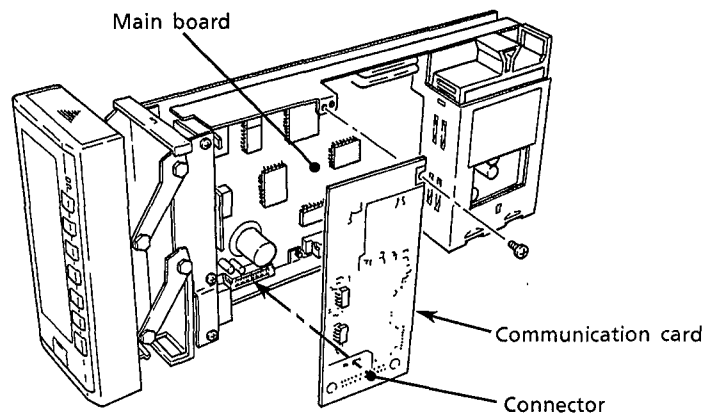

Figure 11.8 Replacing the Communication Card
- ① Swing up the front panel, and remove the internal unit.
- ② Loosen the fixing screw with a screwdriver.
- ③ While pushing the communication card slightly to the left, pull the right side of the communication card to the front so that it comes to the front of the fixing screw.
- ④ Hold the left and right parts of the connector part, and pull out the card to the front (see Figure 11.8).
- ⑤ When the card is for YS-net communication, it is still connected to the main board through a flat cable (omitted in the figure below). So disconnect the connector at the main board side.
- ① Mount a new communication card by performing the reverse of the steps for “How to Detach” above.